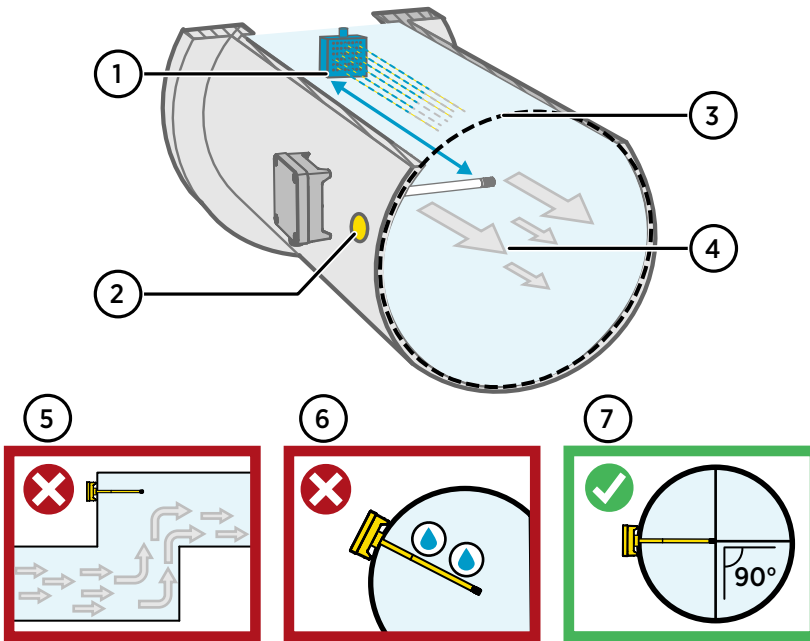

Figure 3 Duct Installation Overview
4. Optional: Drill a second hole for reference measurements approximately 30 cm (12 in) from the transmitter installation hole. See Figure 3 \(page 8\).